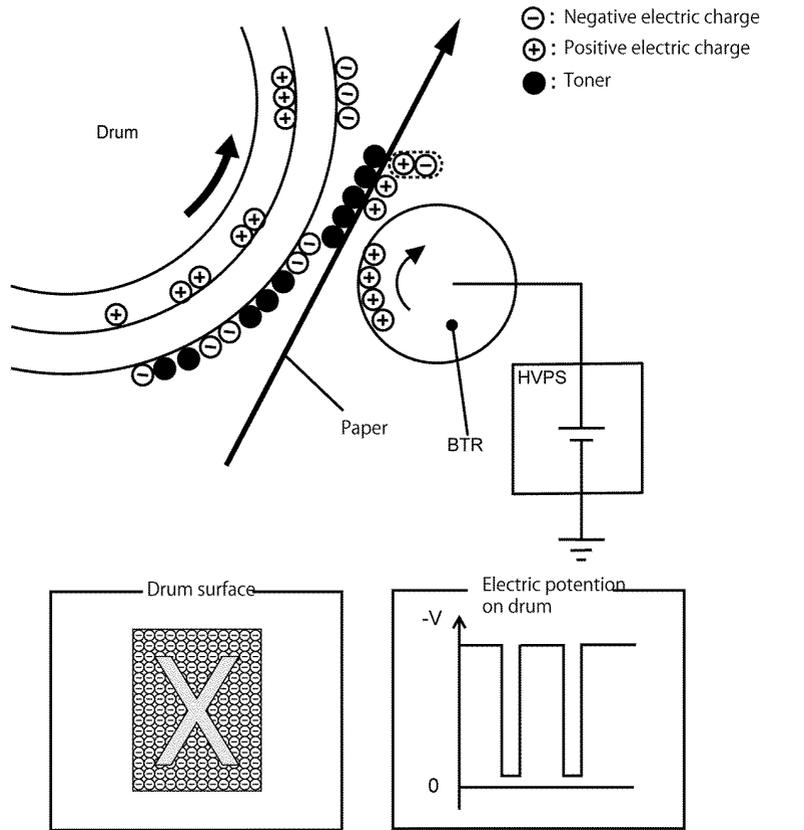

Figure 8 Transfer
- The BTR is a conductive roll, which is located in contact with the drum and is supplied with high voltage from the HVPS. When the paper moves from the BTR to the drum, the BTR applies positive charge to the backside of the paper. The toner image on the drum surface is transferred from the drum to the paper, attracted by the positive charge of the paper backside. The paper is attracted to the drum surface because the negative charge induced in the conductive layer of the drum attracts the positive charge on the paper backside. Refer to Figure 8.